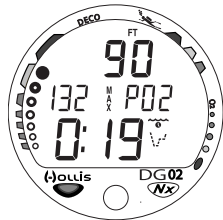

Fig. 31A - Nitrogen Control
- If the TLBG is displayed (Fig. 31A), that next dive is calculated to be controlled by nitrogen loading.